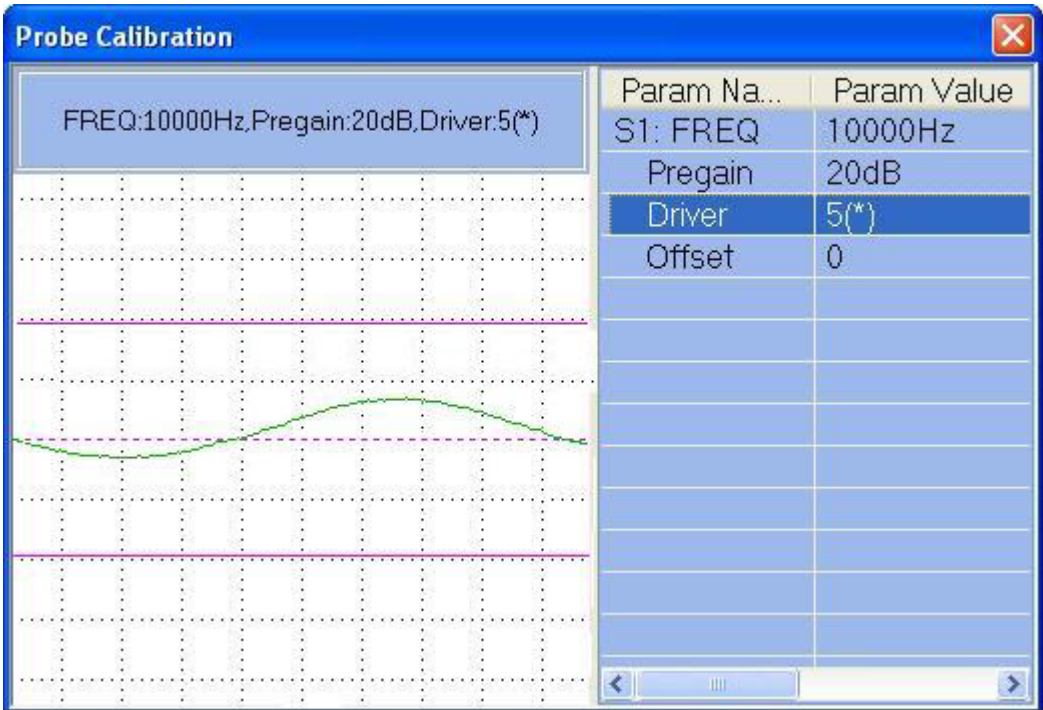

Figure 4-12 Preamp & Drive
4. “Probe calibration”: the value for “PREGAIN” is advised 20~25dB, and the value for “DRIVE” is 5. Make sure the peak of the green sine wave is between the two red lines, see Figure 4-12.